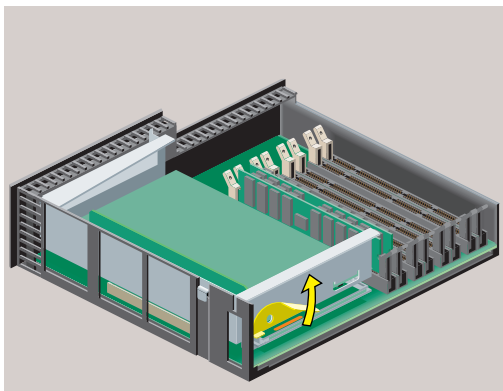

Figure 2-29 Releasing the PCI Tray
1. Push up the lever on the side of the PCI tray to release it (Figure 2-29). The tray pops up.